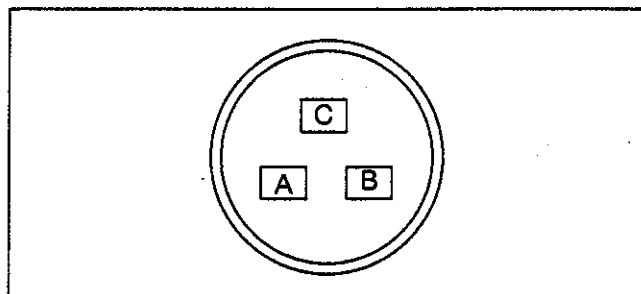

Figure 4-16 Transducer Terminal Location
- e. Use a digital volt-ohmmeter to measure voltage across the transducer connector corresponding to terminals A & B. See *Figure 4-16*. The reading should be 5.0 VDC.
- g. Use a digital volt-ohmmeter to measure voltage across the transducer at terminals A & C. See *Figure 4-16*. Compare to values in *Table 4-1*. A reading within two percent of the values in the table would be considered good.